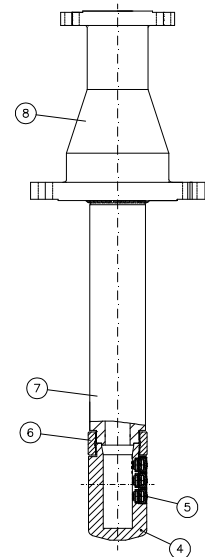
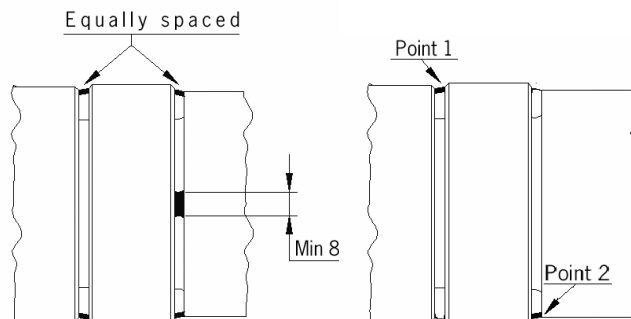

FIG.3
FIG.4
NB: In version DF1525 and DF1550 (see FIG.3), before to replace the nozzle head, cut the tack welds, unscrew the fastener ring (6) and the nozzle assembly (4+5). Re-lap the tight surface on the pipe(7) if necessary. Take care that the screw on the nozzle head(5) is left hand while on the extension (7) it's right hand. To facilitate removal of the ring, tap it gently with a hammer. Take care not to damage the thread of the body and of the cylinder. Once re-assembled, weld the spray cylinder(4+5) for improved safety. It is imperative that this operation be undertaken by a competent welder. A welding procedure specification is available from Carraro on request. Both TIG and ARC welding are acceptable, and the recommended electrode material is ER NiCrMo3. At least 2 welds are necessary. They must be 8 mm in length and diametrically opposed. One weld must secure the fastener ring to the body extension, and the other must secure the spray cylinder to the fastener ring. On completion, check the welding using appropriate penetrating liquids. There must be no cracks. If necessary, grind and check again until the weld is satisfactory (see Fig.4). Before reinstalling check that the direction of the injection is the same of the hole on the steam flange and then take care to the correct reinstalling on the steam pipe.